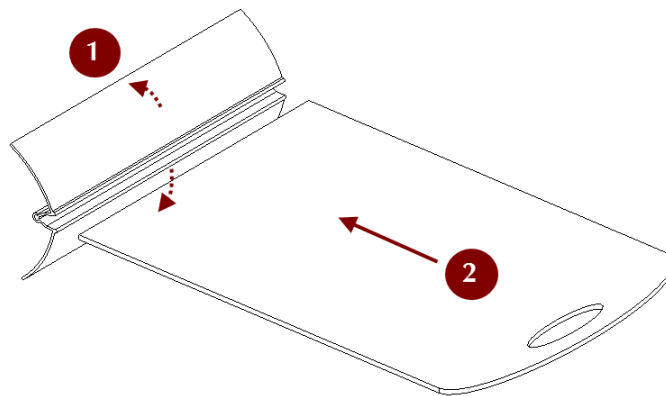

Figure 146: Assembling the rig.
3. Insert the board into the slot, as Figure 146 shows.